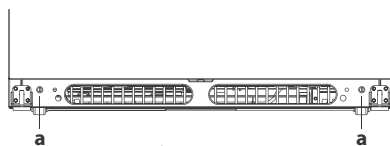

Fig.3 Adjustment screws
- b Turn the front roller adjustment screw (**a**, Fig.3) on that side clockwise to raise front corner of door.